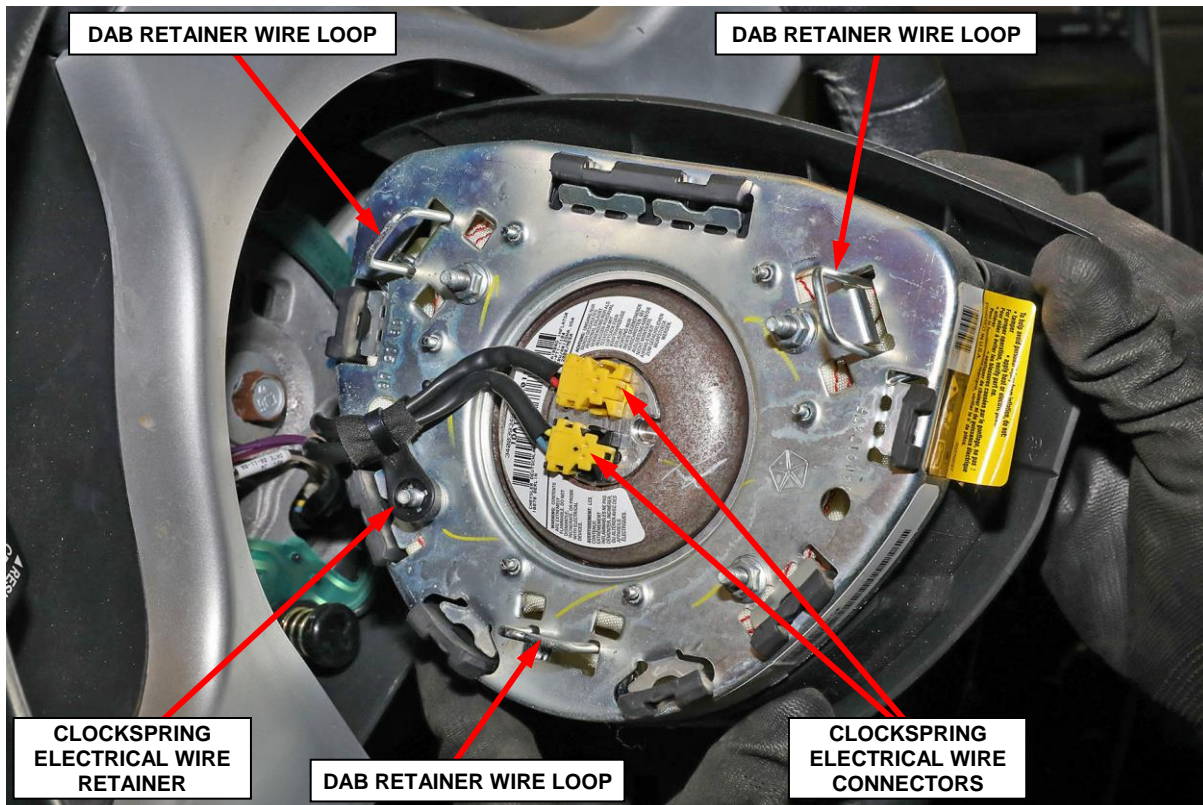

Figure 4 – DAB Retainers and Clockspring Electrical Wire Connectors
12. Pull the driver air bag away from the steering wheel far enough to access the clockspring electrical wire connectors at the back of the air bag housing (Figure 4).
13. The air bag electrical wire harness has a plastic retainer that is pushed onto one of the inflator mounting studs on the back of the air bag housing. Pull the retainer off of the stud (Figure 4).
14. The clockspring driver air bag pigtail wire connectors are secured by an integral lock to the air bag inflator connector receptacles, which are located on the back of the DAB housing. Firmly grasp and pull the lock straight out from the connector insulator, then pull the insulators straight out from the air bag inflator to disconnect them from the connector receptacles (Figure 4).
1. Position the driver air bag close enough to the steering wheel to reconnect the electrical connections to the back of the air bag housing (Figure 4).
2. When installing the driver air bag, reconnect the two clockspring pigtail wire connector connections to the air bag inflator connector receptacles by pressing straight in on the connectors, then push the locks straight into the connectors. Be certain to engage each keyed and color-coded connector to the matching connector receptacle (Figure 4).
3. The air bag electrical wire harness has a plastic retainer that is pushed onto one of the inflator mounting studs on the back of the air bag housing. Install the retainer onto the stud (Figure 4).